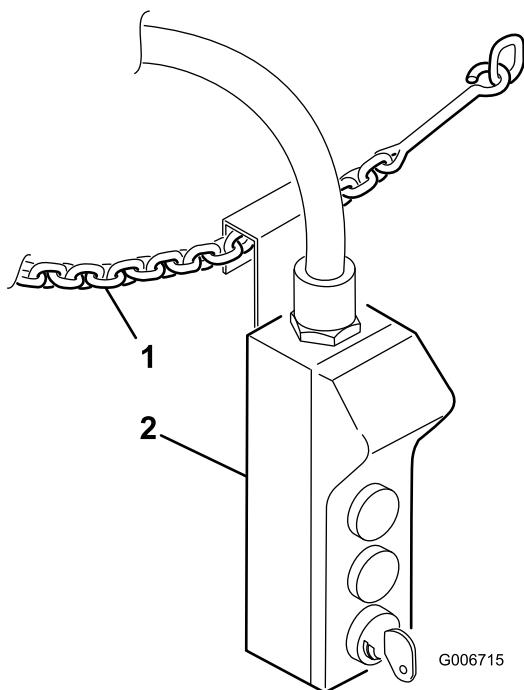

Figure 28
3. Climb into platform and secure safety chains across entry (Figure 28).